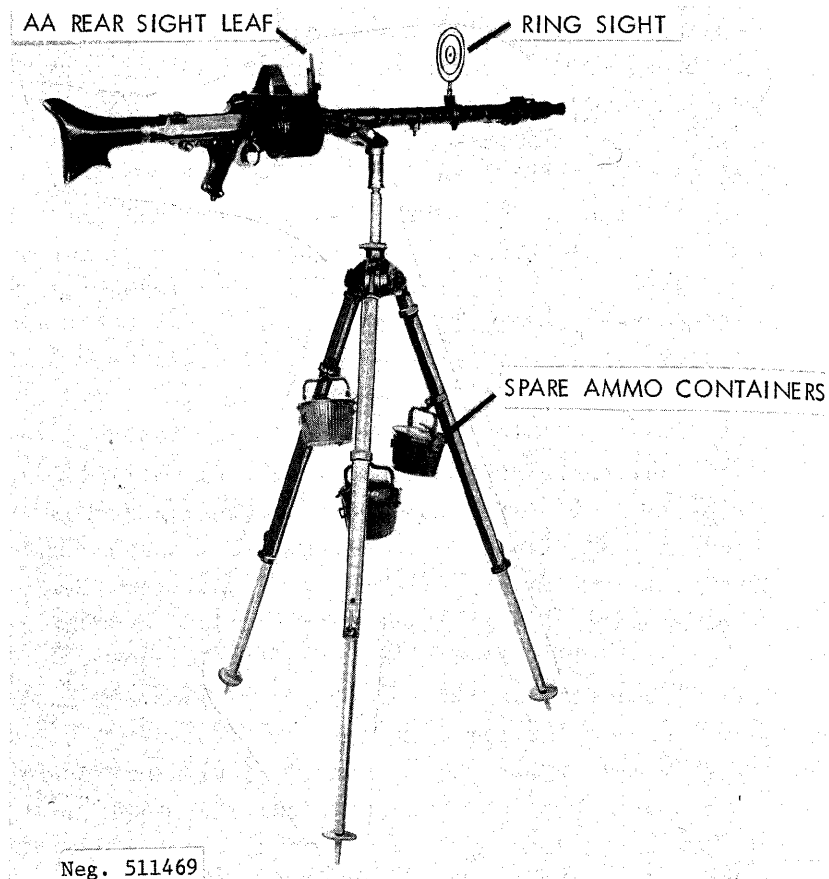

Figure 170. MG34 on AA tripod.
b. The anti-aircraft tripod is used, as its name implies, for anti-aircraft fire. To use, spread its legs, lift the rear sight of the MG34, and invert the gun. Set the inverted gun on the tripod so that its rear mount adapter is aligned with the mount of the tripod. Twist the gun upright and pull out on the lock until the gun is fully seated. Release the lock. If the anti-aircraft ring sight is available, insert its stem into the socket on the barrel jacket and twist it until the sight locks into place. Lift the rear anti-aircraft sight into position from the rear sight leaf (fig 170).